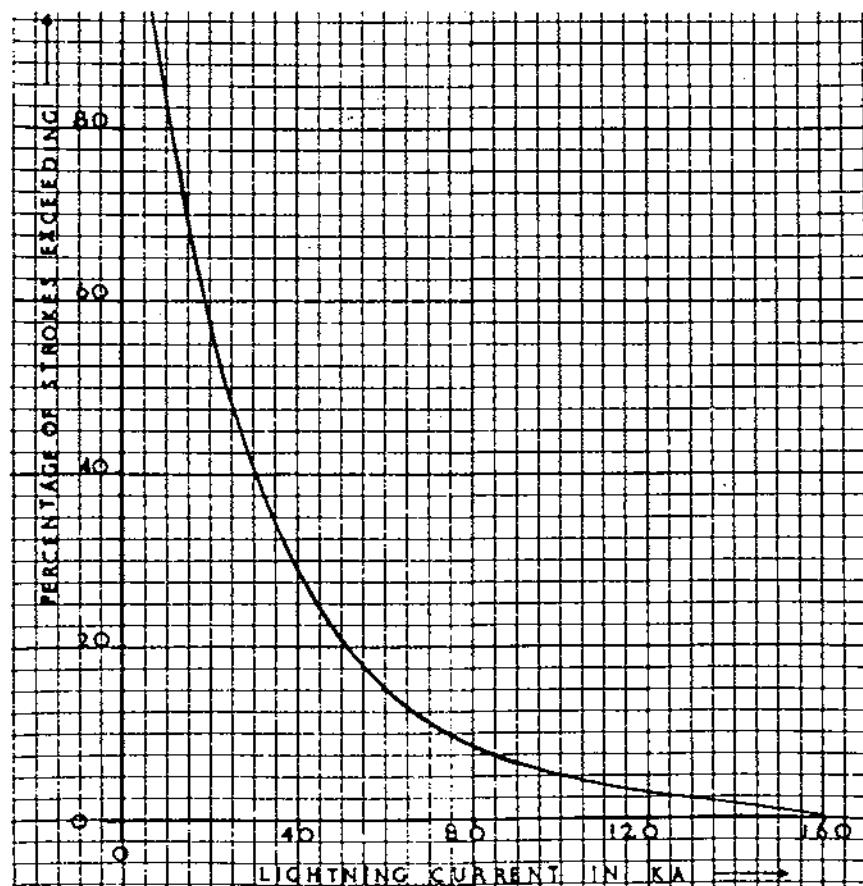

Figure 1. Magnitude of lightning stroke current.
downward progression, charges from the cloud are deposited along the path of the leader. The approach of a leader to the ground is unaffected by features there until the local stress produced under its tip is sufficient to cause breakdown of the air between it and the earth. At this point an upward streamer discharge from the nearest earth point is initiated. The leader and the upward streamer meet to complete the discharge path, along which the return stroke moves at about  $1/10$  the speed of light to neutralize the deposited charge, and the charge in the cloud. It is the return stroke which carries the heavy current, an average value of its peak amplitude being 20,000 amps. The magnitude of the current follows a probability law, the higher currents being the least likely. The current distribution is shown in Figure 1.
Equation (2) with Figure 1 permits estimation of the percentage of direct strikes to the phase conductors which cause flashovers. For an 11 kV wood pole line the current to cause failure is 550 amps, and hence virtually all strokes result in a flashover. However for a 400 kV line only 70 per cent of strikes will result in a failure.
Every shielding failure means that a phase conductor is struck by lightning. The number of flashovers which will result can be found from equation (2) and Figure 1, since not every strike will inject sufficient current to cause a flashover.